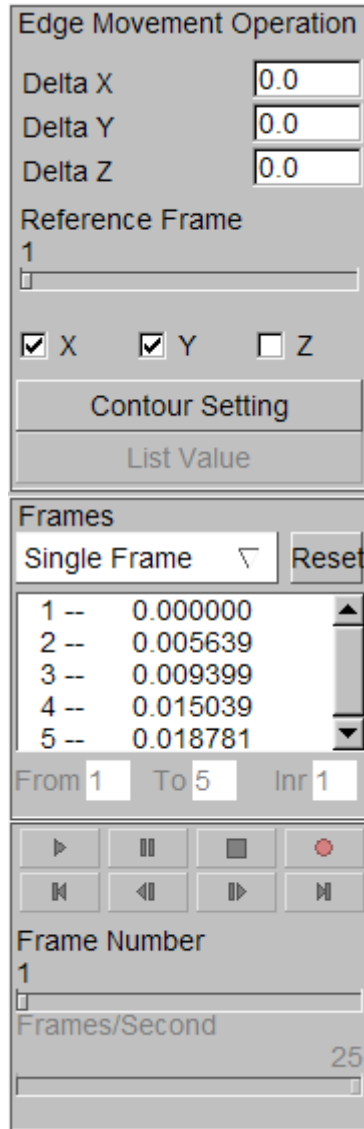

Figure 7.38 Edge movement control window
The function enables the user to animate movement of the blanks outer edge in real time. A vector is drawn to show the displacement (including X, Y, and Z orientation) at the boundary nodes of the blank. The contour bar, located on upper right corner of the graphic window, displays the corresponding contour magnitude of the displacement vectors. The location of the highest contour value in the model is labeled with an asterisk (*) and the lowest is labeled with a zero (0). The options for this function are shown in Figure 7.38: